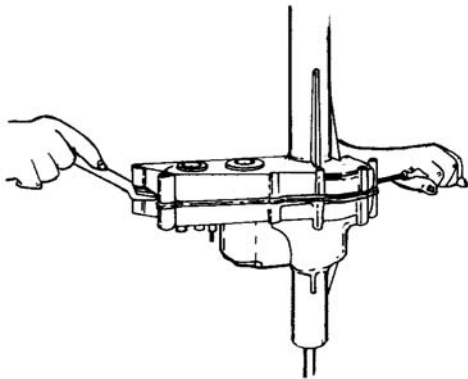

Figure 5-104. Prying Halves Apart
9. Carefully pry halves apart in areas shown in Figure 5-104.